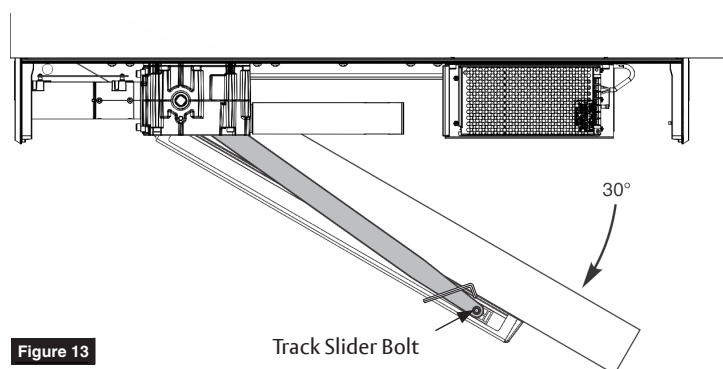

Figure 13
3. Using hex wrench, secure arm to pinion with screw and nut. (Figure 13)
4. Open door approximately 30 degrees and attach arm to slider in track. Use hex wrench to tighten slider bolt counter clockwise until slide is tight in arm. (Figure 13)